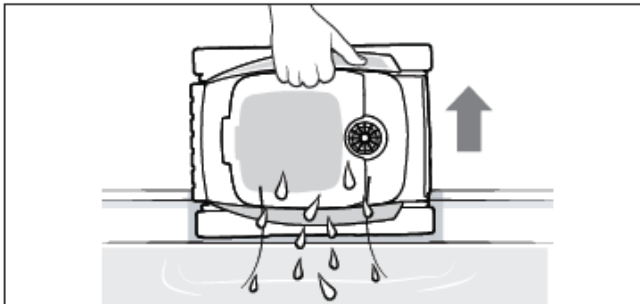

Figure 8. Drain the Cleaner
3. Pull up the cleaner by the handle and hold vertically to let the water drain into the pool. (FIGURE 8)